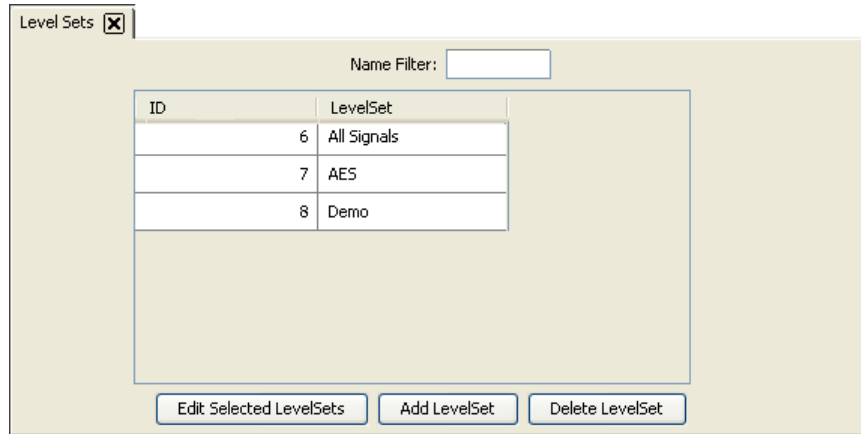

Figure 8-5. Level Sets Page
- 2 From the Navigation area, select the 'Configuration' pane and then 'Level Sets'. The 'Level Sets' page displays, as shown in Figure 8-5.